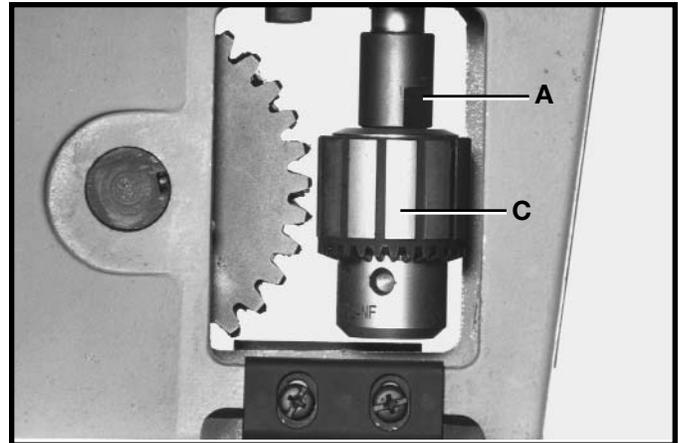
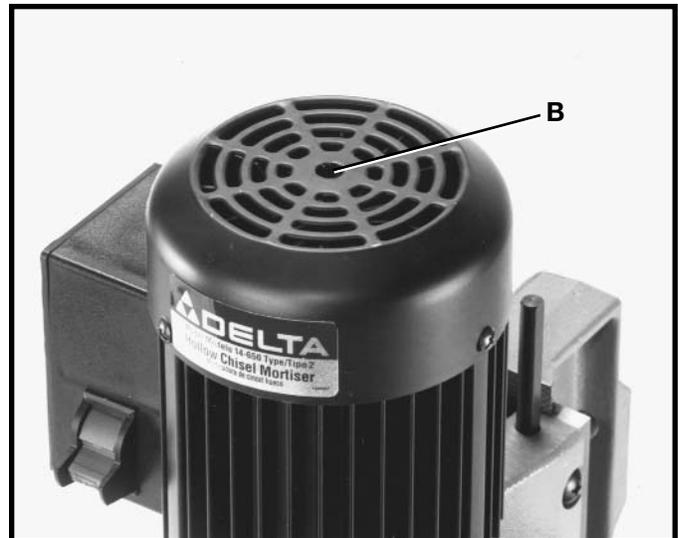

Fig. 37
Fig. 38
When using bits with extra long shanks, it will be necessary to remove the extension (A) Fig. 37. This can be accomplished by inserting screwdriver into center hole of motor end cap (B) Fig. 38, and into slot in end of armature shaft. Then using chuck key, unscrew and remove chuck (C) Fig. 37, and extension (A). Remove extension (A) from chuck (C) and replace chuck (C) on end of motor shaft.